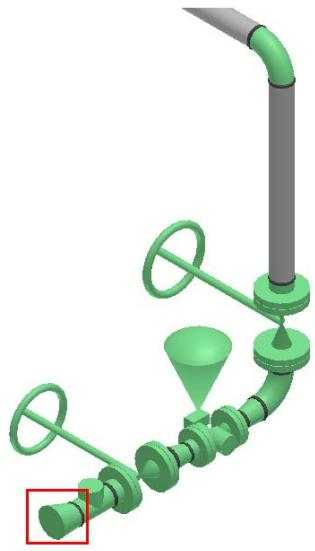

Figure 83: Placed Eccentric Size Change
40. An outline of the eccentric reducer will appear in the graphic view. Click **Finish** on the **Insert Component** ribbon to place the eccentric reducer, as shown in Figure 83.